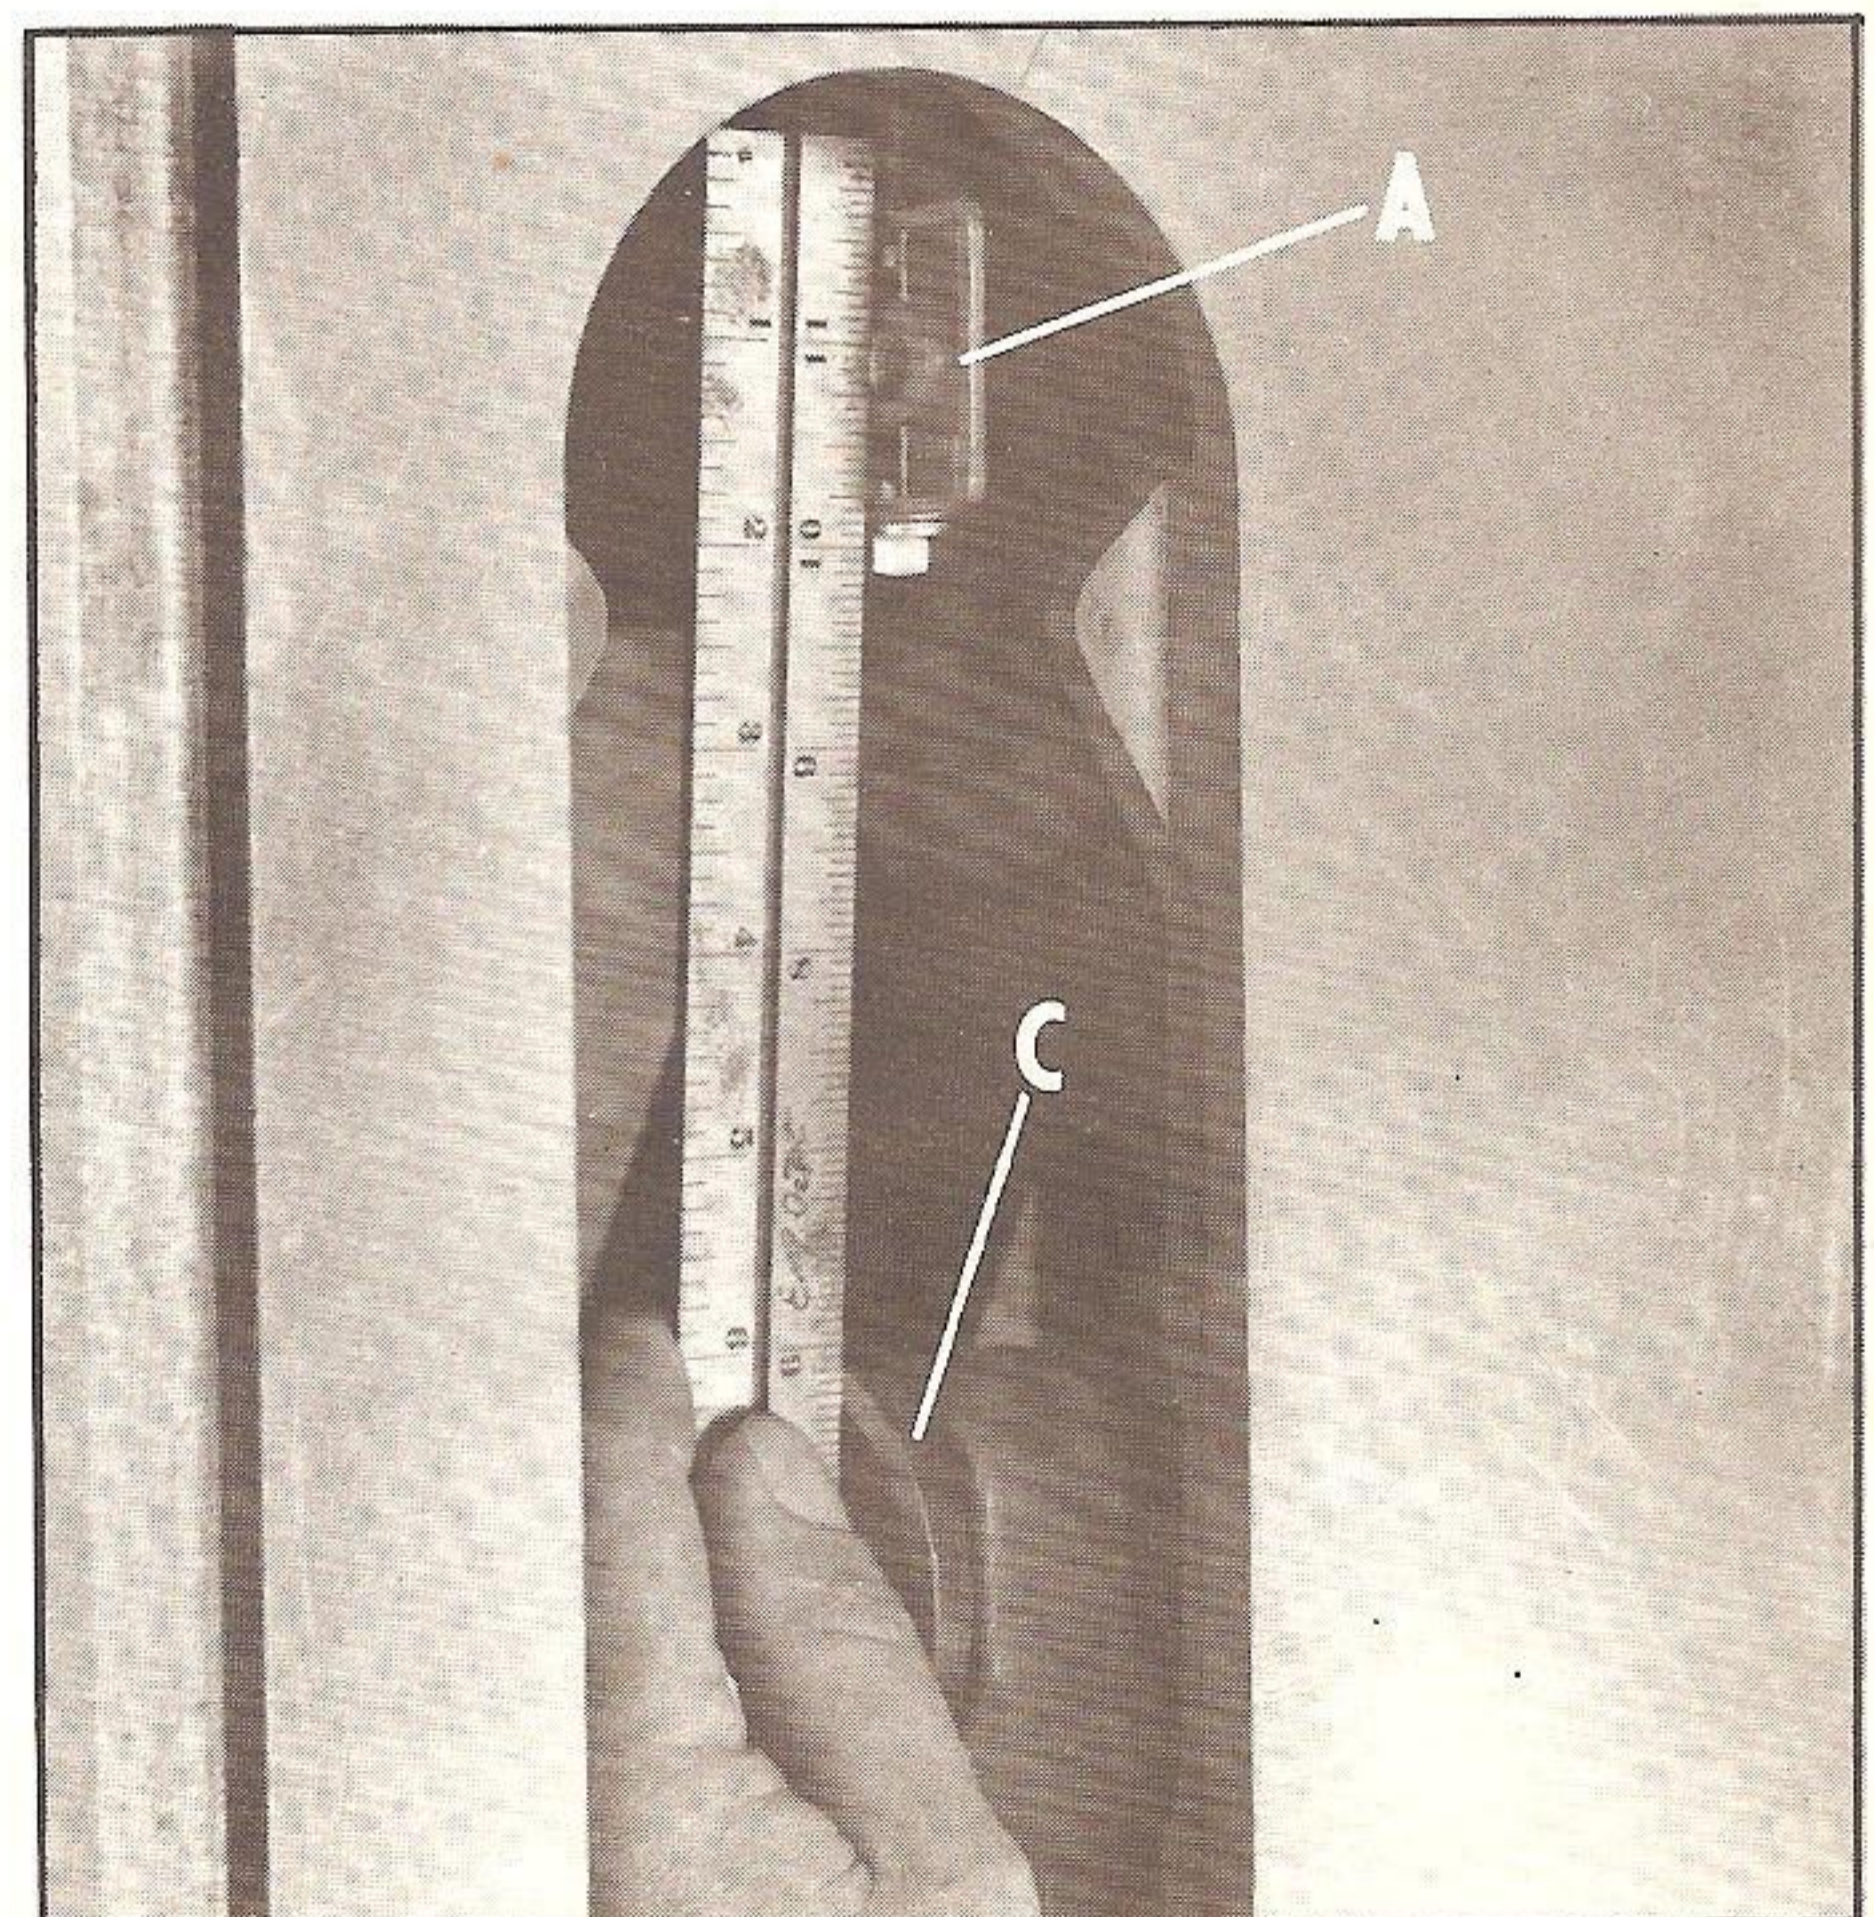

Fig. 9
2. Using a straight edge, align the top and bottom of the bracket (A) to the saw arbor flange (C), as shown in Fig. 9. Then tighten the two screws that fasten the bracket to the inside of the saw carriage.